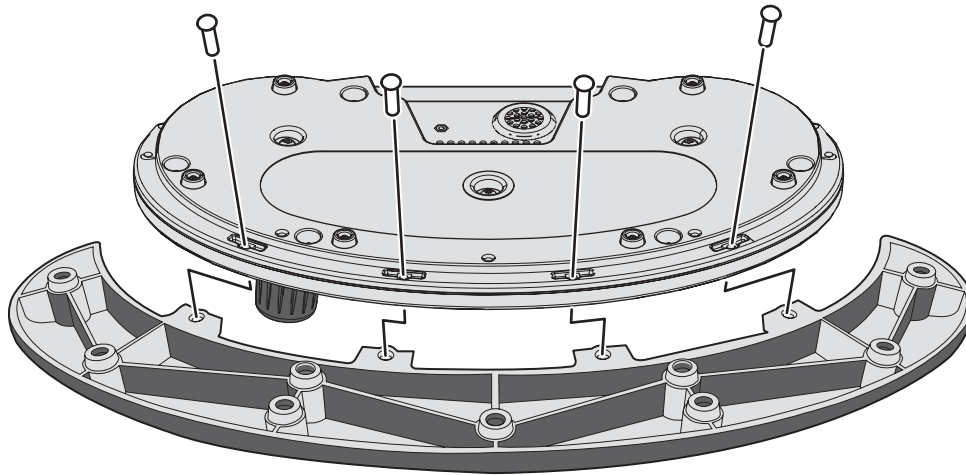

Figure 4. Installing the Wrist Support
2. Turn the keyboard upside down (refer to Figure 4). Attach the wrist support by first lining up the four tabs on the wrist support with the four matching screw receptacles on the base. Install the four 4-40 x 0.312-inch Phillips pan head screws (supplied).